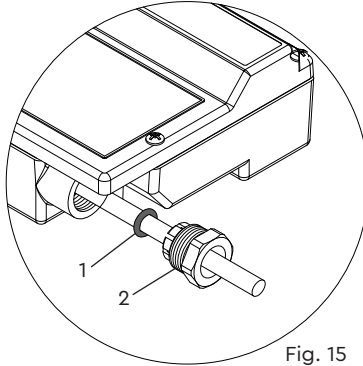

Fig. 15
To enable correct assembly of the cable gland the 'O'-ring (Fig. 15 item 1) must be placed over the cable before the clamping insert (Fig. 15 item 2) can be tightened.